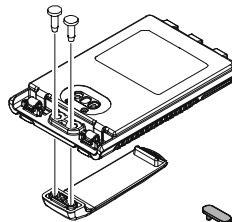

Figure 1
- ❑ Install the supplied Belt Clip to the **FNB-101LI** Battery Pack using the supplied two screws (**Figure 1**). *Use only the screws included with the Belt Clip to mount the Belt Clip to the back of the Battery Pack!*